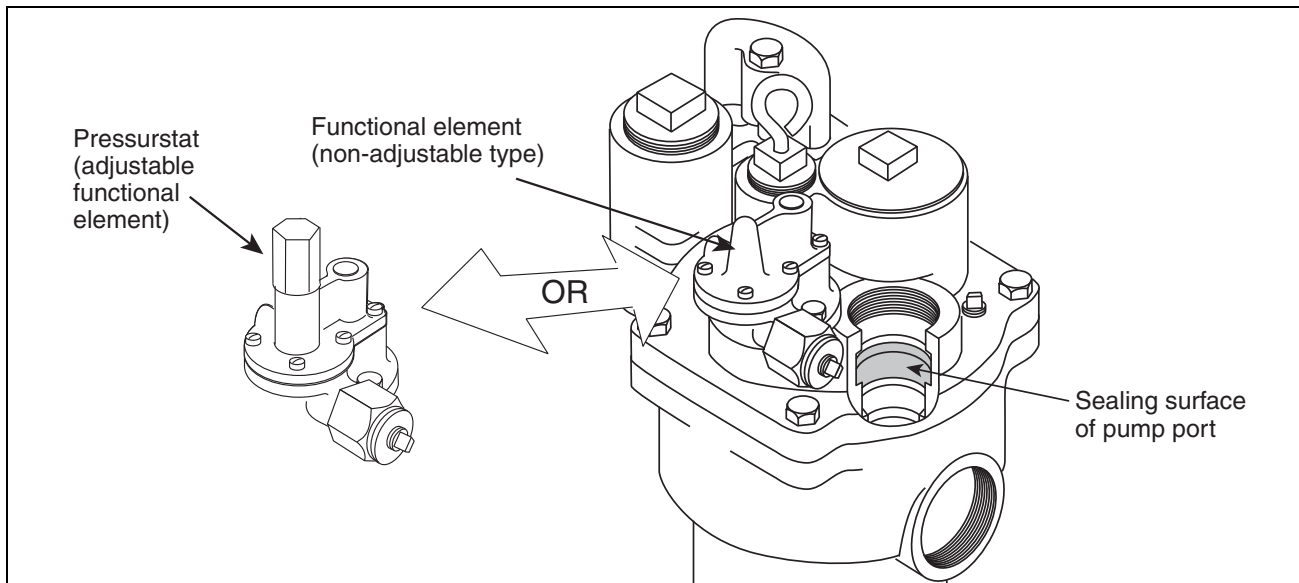

Figure 3. Sealing Surface For SwiftCheck Valve's External O-ring (With Both Functional Element Types Identified)
3. Ensure that the sealing surface for the SwiftCheck valve's external o-ring is smooth and free from corrosion, pitting, and any material build-up [Figure 3].